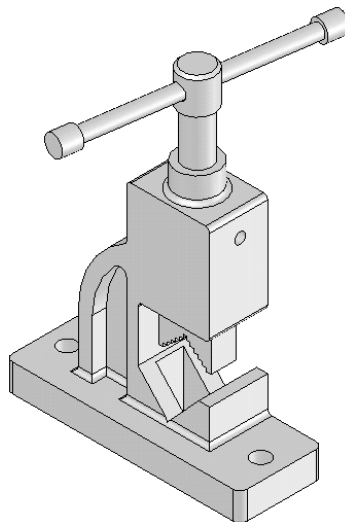
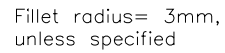

Figure 12-76 Pipe Vice assembly
Figure 12-77 Views and dimensions of the base
In this tutorial, you will create all components of the Pipe Vice and then assemble them. The Pipe Vice assembly is shown in Figure 12-76. The dimensions of various components of this assembly are given in Figures 12-77 and 12-78.
1. Create all components of the Pipe Vice assembly as separate part documents. Specify the names of the files, as shown in Figures 12-77 and 12-78. The documents should be saved in the folder */My Documents/SolidWorks/c12/Pipe Vice*.